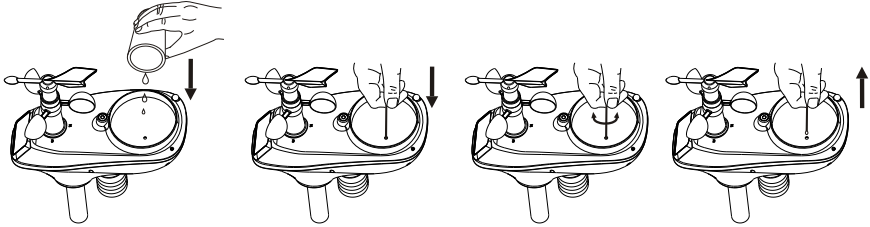

Figure 11
1. Clean the rain gauge once every 3 months as follows. Reference Figure 11.